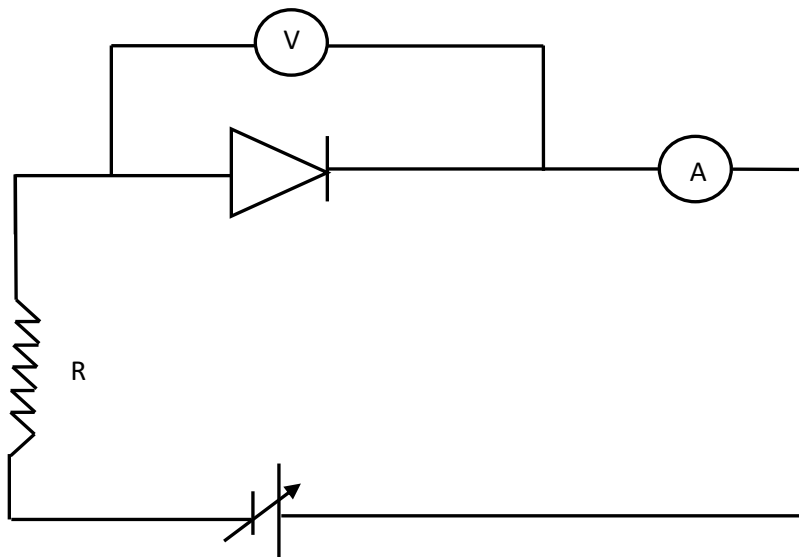

Figure 6.4: Reverse Biasing of PN Junction Diode
1. Connect the diode in the reverse bias as shown in the Fig.6.4.